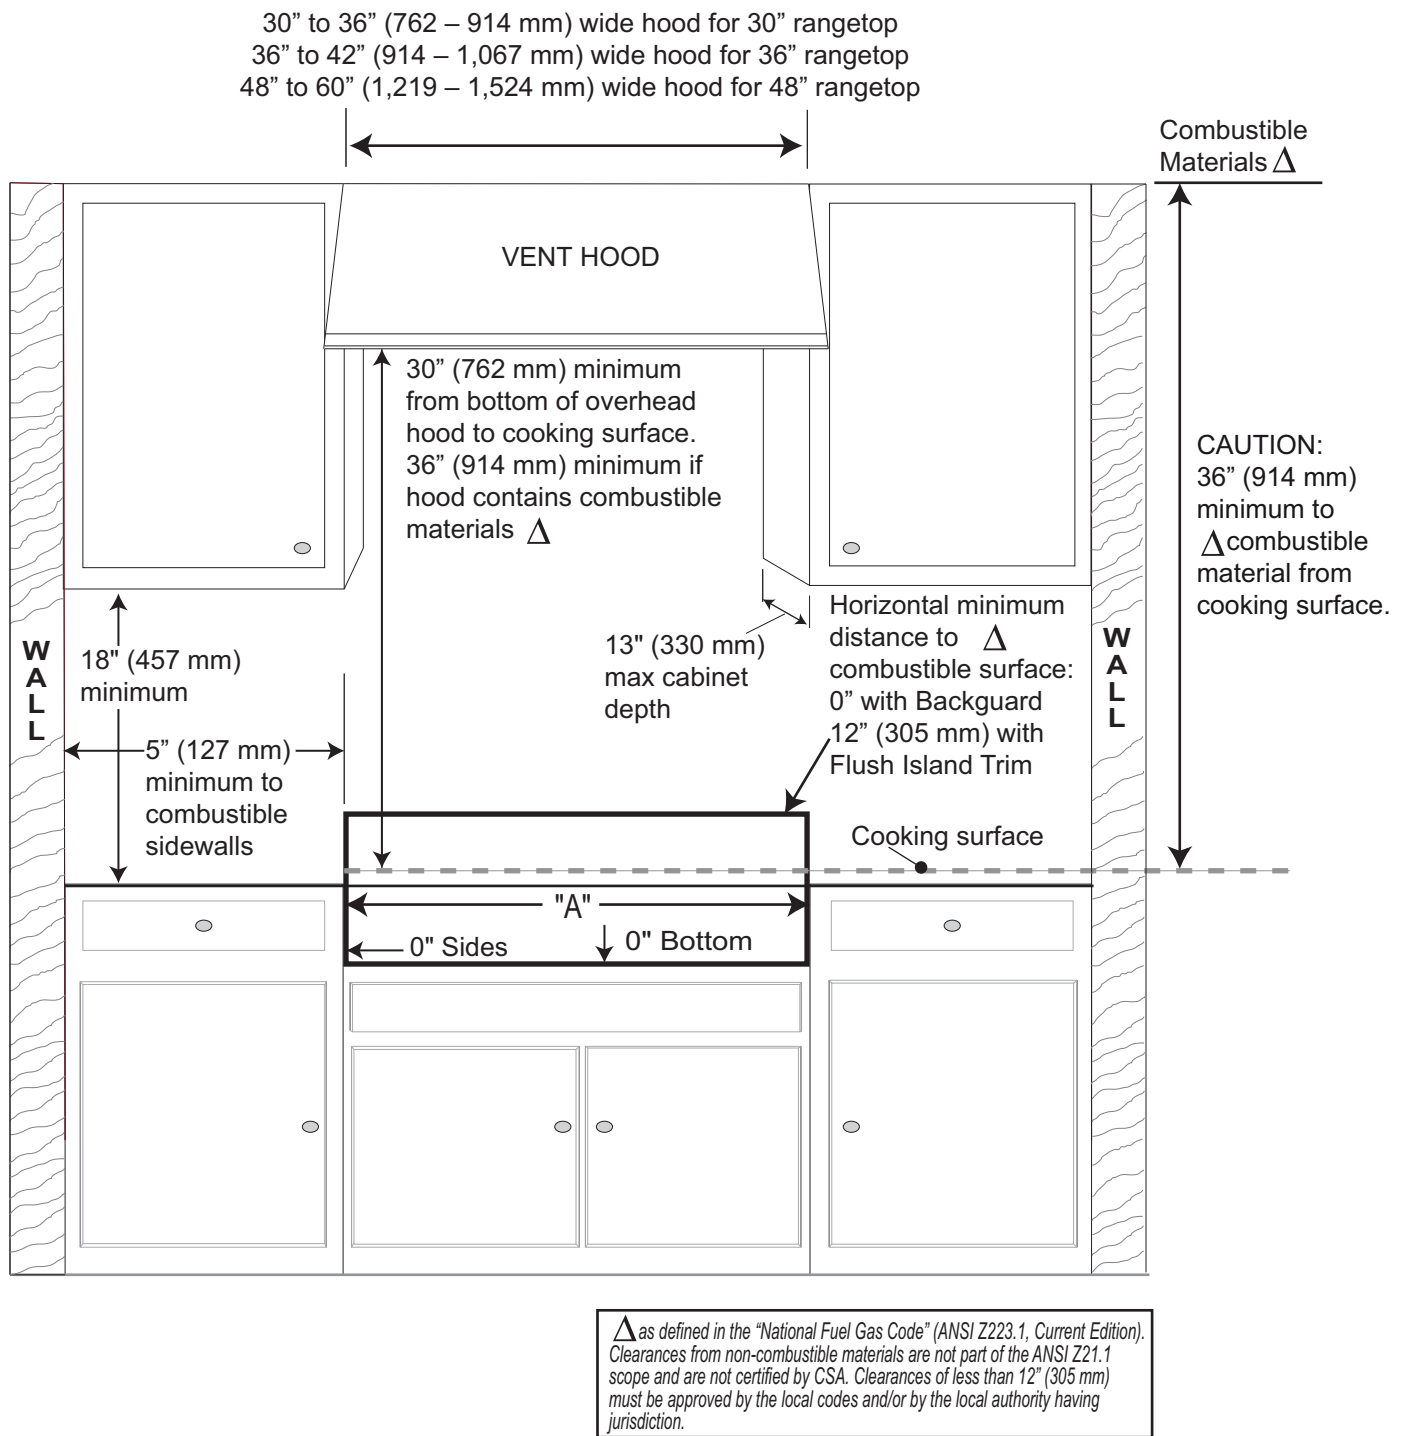

Figure 1: Clearance Requirements
When using the Flush Island Trim, THERMADOR recommends a minimum 12" (305 mm) rear clearance to a combustible surface (see *Figure 1, Clearance Requirements*). Clearances from non-combustible materials are not part of the ANSI Z21.1 scope and are not certified by CSA. Clearances of less than 12" (305 mm) must be approved by the local codes and/or by the local authority having jurisdiction.
- For best smoke elimination, the lower edge of the hood should be installed 30" (762 mm) above the rangetop cooking surface. Use a 36" (914 mm) minimum clearance if the hood contains any combustible materials such as a wood covering (see *Figure 1* on *page 6*).
- For high output gas rangetops (60,000 BTU or greater), the minimum of one (1) CFM of ventilation per 100 BTU is recommended. If the rangetop has a griddle, add 200 CFM to the estimated blower capacity. Additional blower capacity may be required for longer duct runs.
2. The clearances shown in *Figure 1* are required. The same clearances apply to island installations, except for the overhead cabinets, which must have a space wide enough to accept the island hood.
7. When using the Flush Island Trim, THERMADOR® recommends a minimum 12" (305 mm) rear clearance to a combustible surface (see *Figure 1, Clearance Requirements*). Clearances from non-combustible materials are not part of the ANSI Z21.1 scope and are not certified by CSA. Clearances of less than 12" (305 mm) must be approved by the local codes and/or by the local authority having jurisdiction.
13. For installation of a 48" rangetop above two side-by-side THERMADOR® warming drawers (WD24), refer to *Figure 8*. Completing the installation as per *Figure 8* will result in the left and right edges of the rangetop being aligned with the left edge of the left-side warming drawer and right edge of the right-side warming drawer. If different alignment is desired, the 1 7/8" (48 mm) horizontal distance between warming drawer cutouts may be varied. However, maintain at least a 1 1/8" (29 mm) distance to avoid interference between the warming drawers. Attach a 90-degree elbow to the gas rangetop inlet pipe. All above-the-countertop clearances must be maintained, as shown in *Figure 1*.